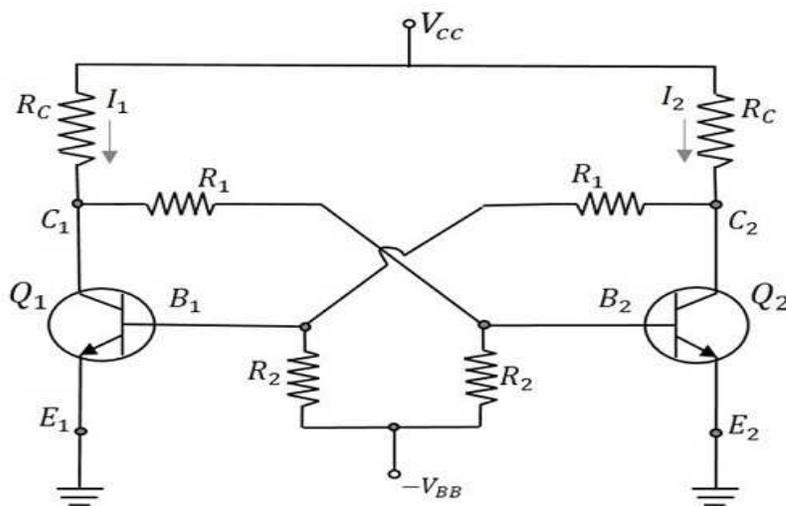

Figure 3
**Bistable multivibrator:** The circuit for bistable multivibrator is presented in figure 3. When the circuit is switched ON, due to some circuit imbalances as in astable multivibrator, one of the transistors let  $Q_1$  gets saturated (ON state) and the transistor  $Q_2$  gets cut off (OFF state). This is a stable state of the Bistable Multivibrator.